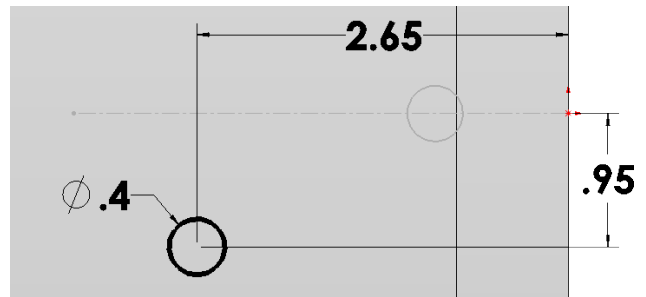
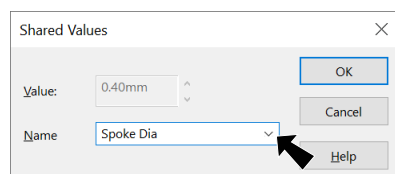

**Fig. 26**
**Fig. 27**
Step 2. Click **Circle**  (S) on the Sketch toolbar.
Step 3. Sketch **circle below and to left of Origin** , **Fig. 26**.
Step 4. Click **Smart Dimension**  (S) on the Sketch toolbar.
Step 5. Add dimensions, **Fig. 27**.